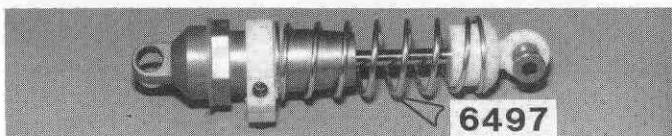

Fig. 128
□ **Fig. 128** On the front shocks, install the spring collars, as shown. Use the short silver spring, which is softer than the short gold spring. Again, you can experiment with both springs, but start with the silver spring. Install the spring cups that go inside the springs, as shown, and then install the plastic ball end. Your shocks are now complete.